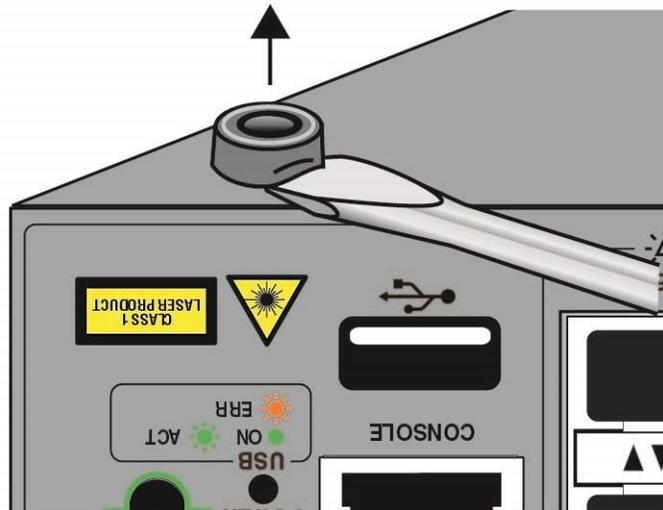

Figure 21. Removing the Bumper Feet
2. Use a small flat-head screwdriver to pry the feet from the bottom of the switch. Refer to Figure 21.